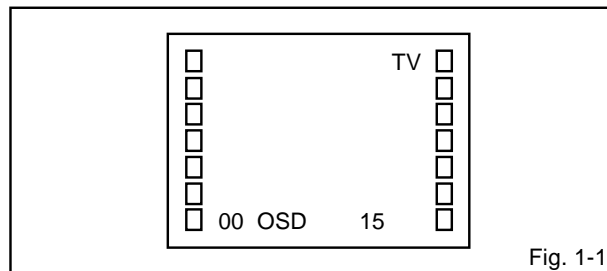

Fig. 1-1
1. Follow the steps as follows to discharge the Anode Cap. (Refer to Fig. 1-1.)
1. In the condition of NO indication on the screen. Press the VOL. DOWN button on the set and the Channel button (9) on the remote control for more than 1 second to appear the adjustment mode on the screen as shown in Fig. 1-1.
3. Activate the adjustment mode display of Fig. 1-1 and press the channel button (02) on the remote control to select "RF. AGC".
3. Activate the adjustment mode display of Fig. 1-1 and press the channel button (01) on the remote control to select "CUT OFF".
4. Activate the adjustment mode display of Fig. 1-1 and press the channel button (13) on the remote control to select "R. BIAS".
3. Activate the adjustment mode display of Fig. 1-1 and press the channel button (04) on the remote control to select "H. POSI".
3. Activate the adjustment mode display of **Fig. 1-1** and press the channel button (**06**) on the remote control to select "H. SIZE".
2. Activate the adjustment mode display of **Fig. 1-1** and press the channel button (**05**) on the remote control to select "V. POSI".
2. Activate the adjustment mode display of **Fig. 1-1** and press the channel button (**07**) on the remote control to select "V. SIZE".
3. Activate the adjustment mode display of **Fig. 1-1** and press the channel button (**23**) on the remote control to select "PARABOLA".
3. Activate the adjustment mode display of **Fig. 1-1** and press the channel button (**24**) on the remote control to select "TRAPEZIUM".
3. Activate the adjustment mode display of **Fig. 1-1** and press the channel button (**25**) on the remote control to select "COR TOP".
3. Activate the adjustment mode display of **Fig. 1-1** and press the channel button (**26**) on the remote control to select "COR BTM".
1. Activate the adjustment mode display of **Fig. 1-1**.